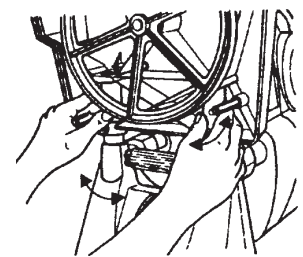
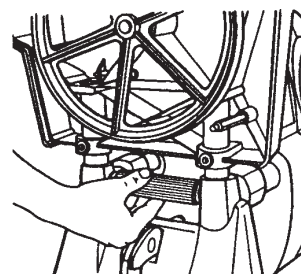

Fig. 7
Fig. 8
6. Horizontally align the Bandsaw hub (52) to the Mark V hub by hand-rotating the eccentric tubes, as seen in Fig. 7. You have up to 1/4" movement to the right or left. When the two hubs are horizontally aligned, tighten the accessory mount lock, as illustrated in Fig. 8.